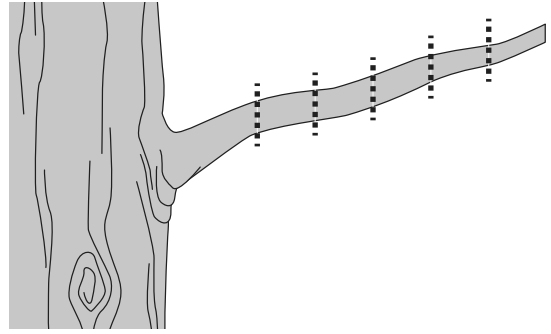

Figure 14
2. To prevent the branch from splintering and buckling, cut the branch off in several pieces. See Figure 14, right.